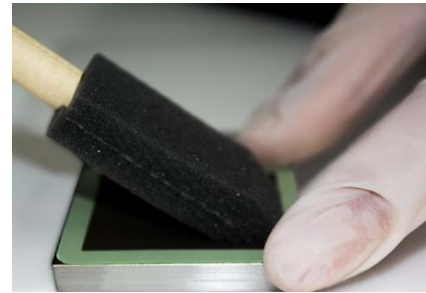

Figure 14
- Lightly holding the cell in place, evenly apply approximately 0.75 grams of LSC ink to the cathode active area (Figure 14).